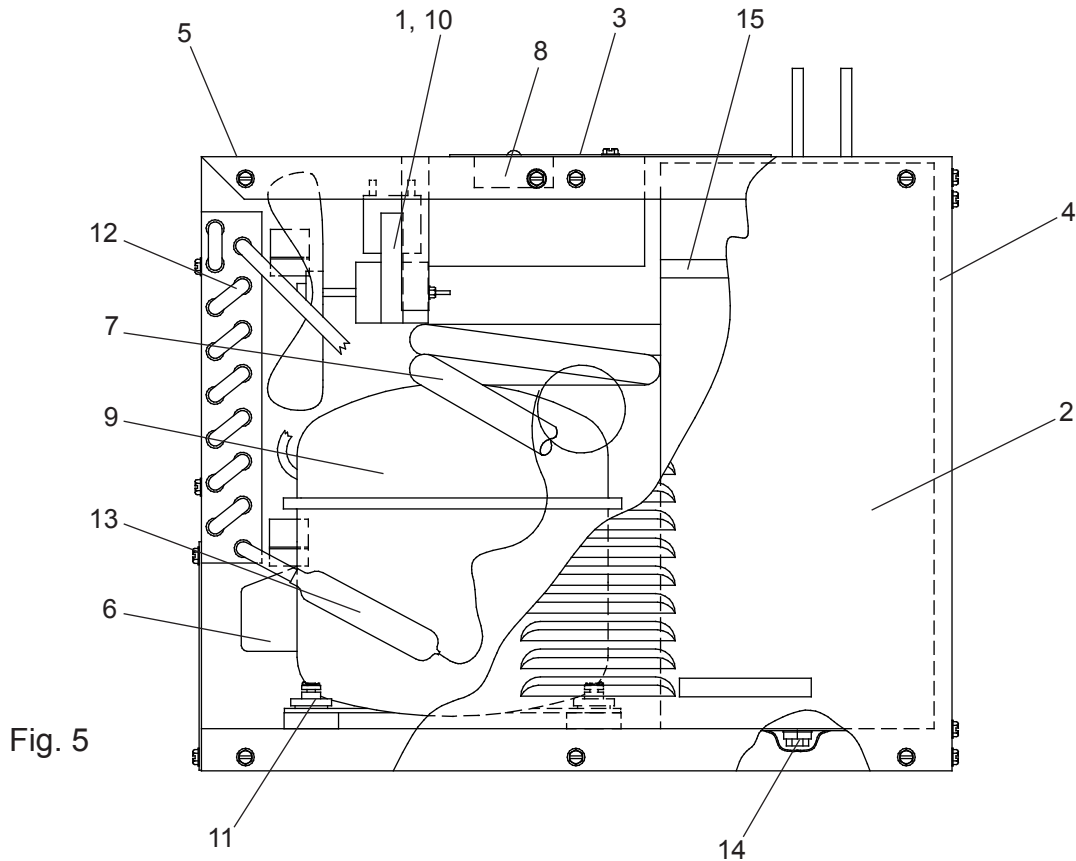

Fig. 5
**Temperature Control:** Factory set at 50°F (± 5°) under normal conditions. For colder water, adjust screw on item no. 8 in clockwise direction. (See Fig. 5)